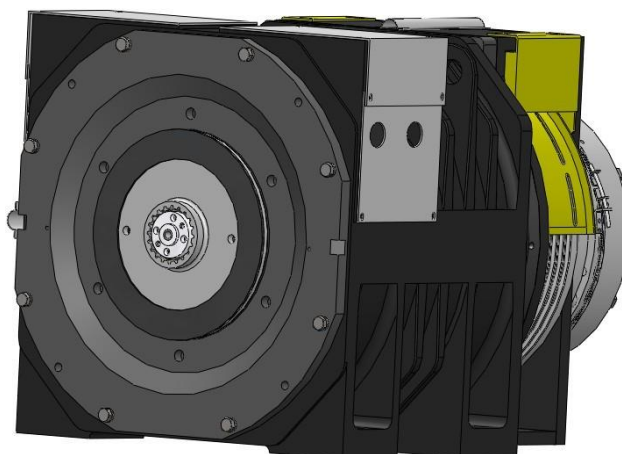

Figure 45: Friction lining reinstalled
3. Install the new friction lining. It is OK to apply a little force using rubber hammer to press it in and move it forward through the spline (Be careful not to damage the O-ring.); make sure the friction lining moves easily. See Figure 45.